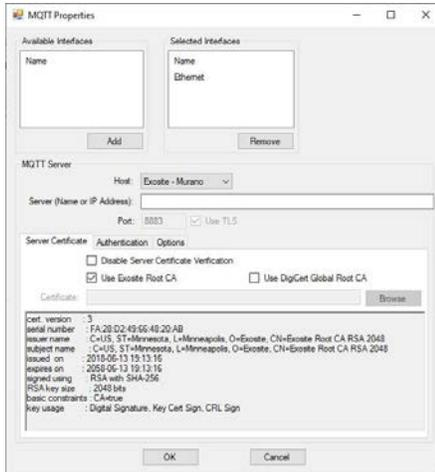

Figure 28-7A
- Server Certificate tab. Refer to Figure 28-7A.